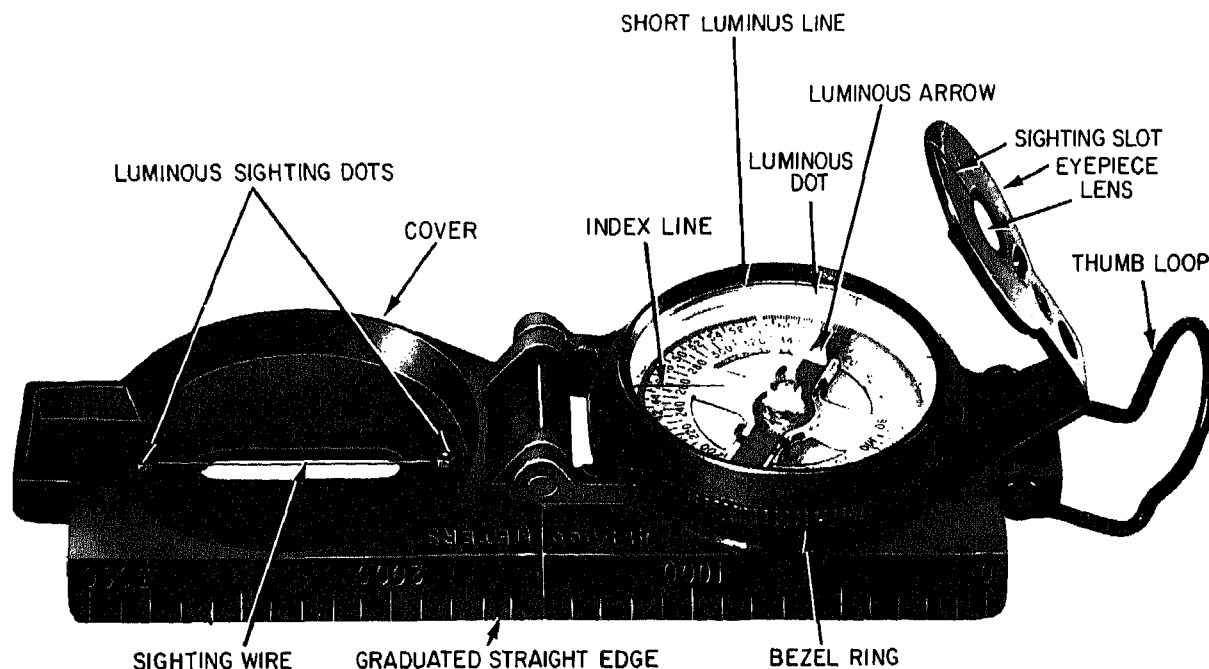

Figure 15-26.—Lensatic compass.
The lensatic compass is the most commonly used and simplest instrument for measuring directions and angles in the field. Two varieties of magnetic compasses are standard for military use today—the lensatic compass (fig. 15-26) and the artillery (M2) compass. Since the M2 is a special purpose compass, it will not be discussed in this chapter.
1. Open the cover until it forms a straightedge with the compass base, as shown in figure 15-26.
4. Hold the compass open and level in the palm of the left hand with the thumb along the flat side of the compass. In this manner, the compass can be held consistently in the same position. Position the compass approximately halfway between the chin and the belt, pointing directly ahead of yourself. A little practice in daylight will make you proficient in pointing the compass the same way every time. Looking directly down into the compass, turn your body until the north arrow is under the luminous line. Then move forward in the direction of the front cover luminous sighting dots (fig. 15-26).